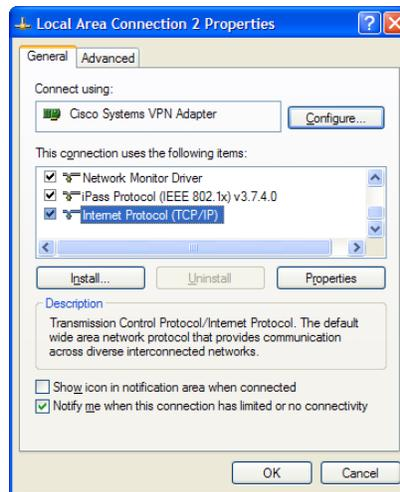

Figure 2-46: Local Area Connection 2 Properties Window
2. Under the *General* tab, select **Internet Protocol (TCP/IP)** and click the **Properties** button, as shown in Figure 2-46.